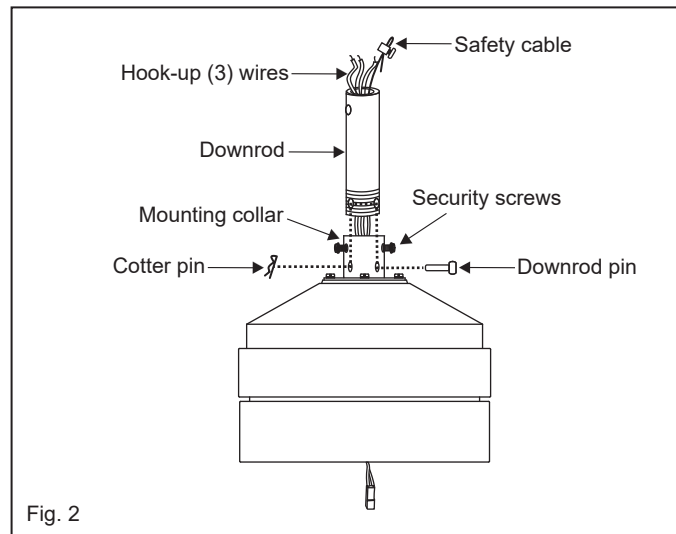

Fig. 2
- 3 Loosen the two security set screws and remove the downrod pin and retaining clip from the coupler on top of the motor assembly. (Fig. 2)
2. Make wire connections from the fan to the receiver unit. For this step use the bundle of 5 wires on the receiver. (Fig. 2)
- 4 Remove one of the three screws on the adapter plate located on the fan motor. Loosen the other 2 screws. (Do not remove) (Fig. 2)
- 5 While holding the LED light kit under your fan, make the polarized plug connections: (Fig. 2)
- 2 Seat the cradle A into the wall plate. (Fig. 2)